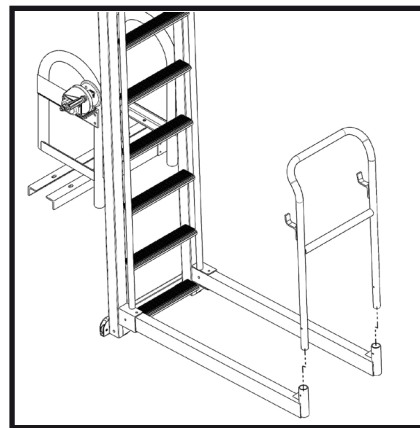

FIGURE 10
- Install grab rail into outside receivers on cradle arms and attach using hardware provided in Kit #6 to complete grab rails assembly. Tighten bolts on cradle arms. See Figure 10.
- Assemble bunk bracket assembly onto cradle arm. Attach using (1) 3/8" x 3.5" bolt provided in Hardware Kit #7. Hand torque for adjustability. Angle bracket needs to face outside of cradle and rotated to face up. (2 sets per cradle arm)
- Attach bunks using hardware provided in Kit #7 to complete bunk assembly. See Figure 10.